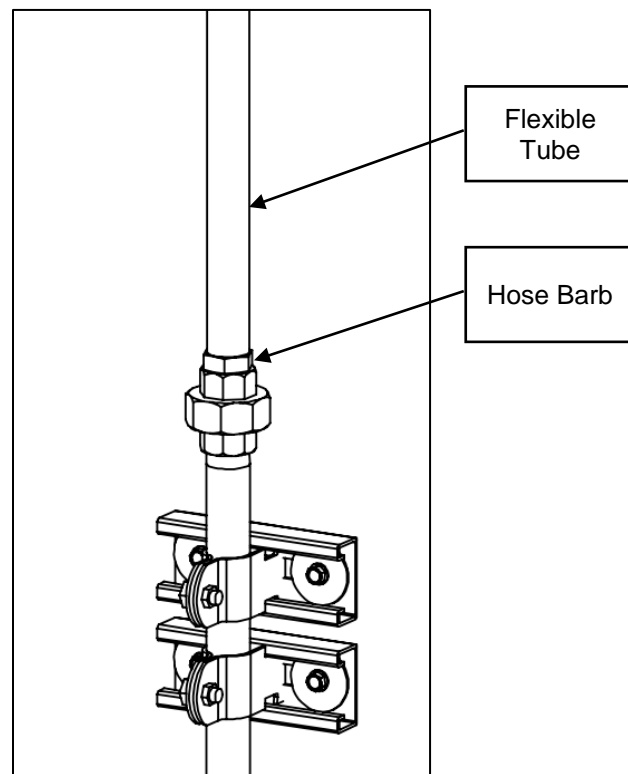
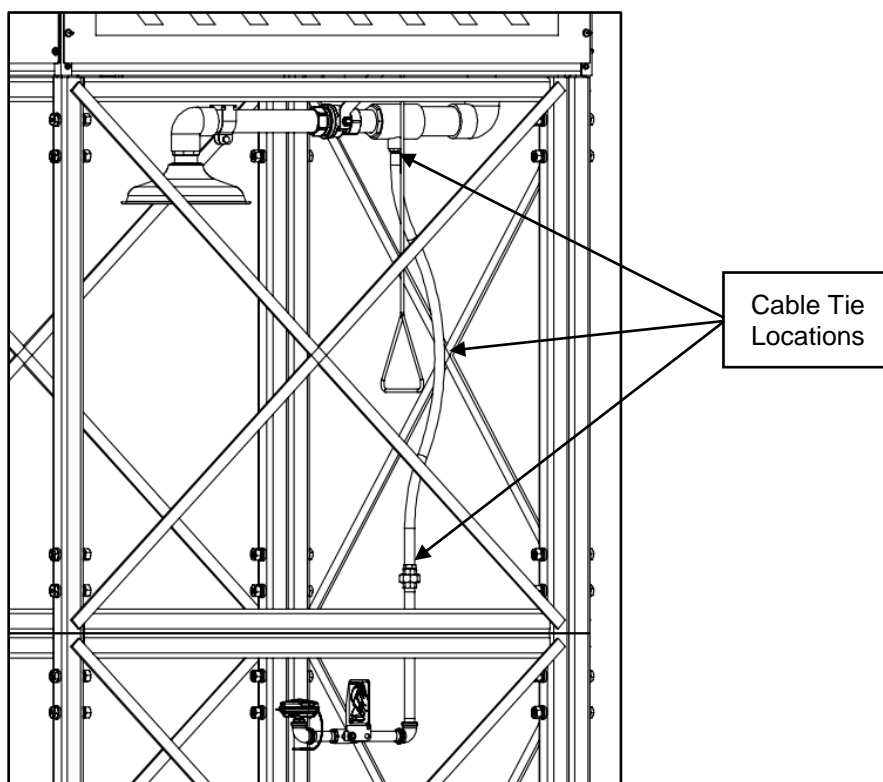

Figure 24. Attaching Flexible Tube
Figure 26. Cable Tie Locations on Eye Wash
10. Carefully push one end of the 1/2" X 36" Flexible Tube (Item #7) over the hose barb on the top of the Eye/Face Wash Piping Assembly as shown in Figure 24. If necessary, the union at the top of the Eye/Face Wash Piping Assembly can be loosened and re-adjusted to rotate the tubing as required. Place the natural bend in the tubing such that the bend is toward the back of the shower. Reference Figure 26.
14. Use two (2) Small Cable Ties (Item #11) to secure ends of the tubing on the barbs. See Figure 26.
15. Use the Large Cable Tie (Item #12) to gently secure the mid-section of the tubing to the upper back cross support straps on the Frame Back Panel of the upper frame. See Figure 26.